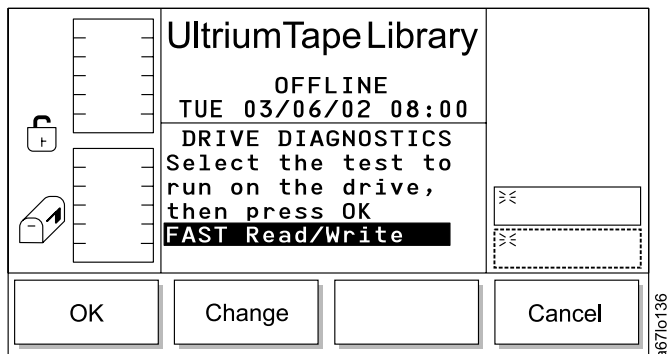

Figure 46. Drive Diagnostics screen
- c. To run the FAST Read/Write Test on the current drive, select **OK**. To run the test on a different drive, select **Change Drive** until the drive you want displays, then select **OK**, and then **Diags**. The Drive Diagnostics screen displays (see Figure 46).